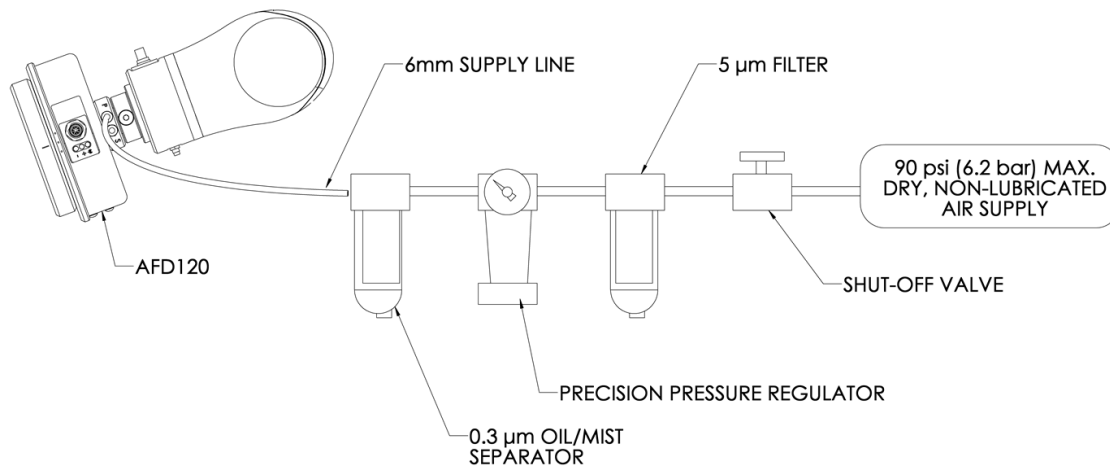

Figure 8: Pneumatic Configuration
-1 or -2 mounting flange is aligned and positioned into the mounting bracket such that the THRU holes are aligned. At that point, the M8x1.25 shoulder bolt should be inserted and threaded into the AFD120 mounting bracket to tighten the assembly as shown in Figure 8. This bolt should be torqued to 40N-m (30ft-lbs).
The pneumatic supply system should be configured as shown in Figure 8.
Under most circumstances the standard internal purge will provide sufficient air to keep the 120 *Series* free of contaminants. In applications where the environment contains very small suspended particulate matter, additional purge air flow must be used to ensure that the AFD remains clear of foreign matter. An auxiliary Purge Port on the 120 *Series* (See Figure 8) provides a pneumatic connection to supply this additional air flow. The port accepts a metric R 1/8 tapered pneumatic fitting. PushCorp can provide fittings for english or metric tubing. The input pressure to the purge port can range from 10 PSI to 60 PSI (0.7 – 4.1 bar) with a flow rate of 0.5 to 2.0 SCFM (14 – 56 l/min) depending on the application. The purge air must be dry and non-lubricated, however it need only be filtered to 20 microns.